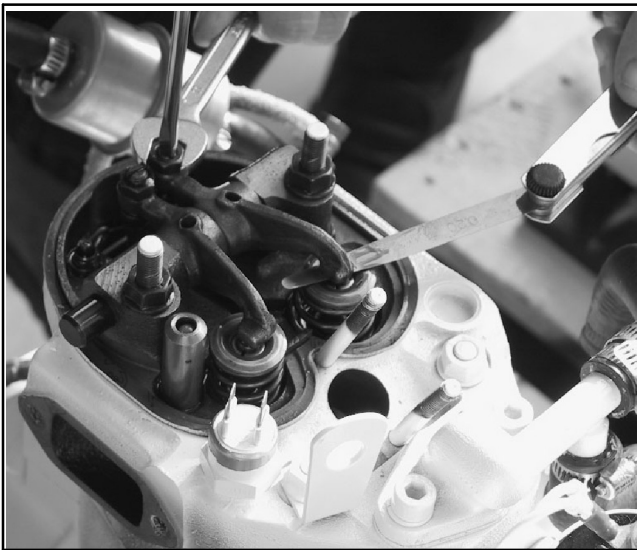

Figure 10-94 Feeler Gage
2. Loosen the locknuts of the valve adjustment screws and drive a 0.2 mm (0.78 in.) feeler gage between the upper surface of the valve stem and the rocker arm. See Figure 10-94.